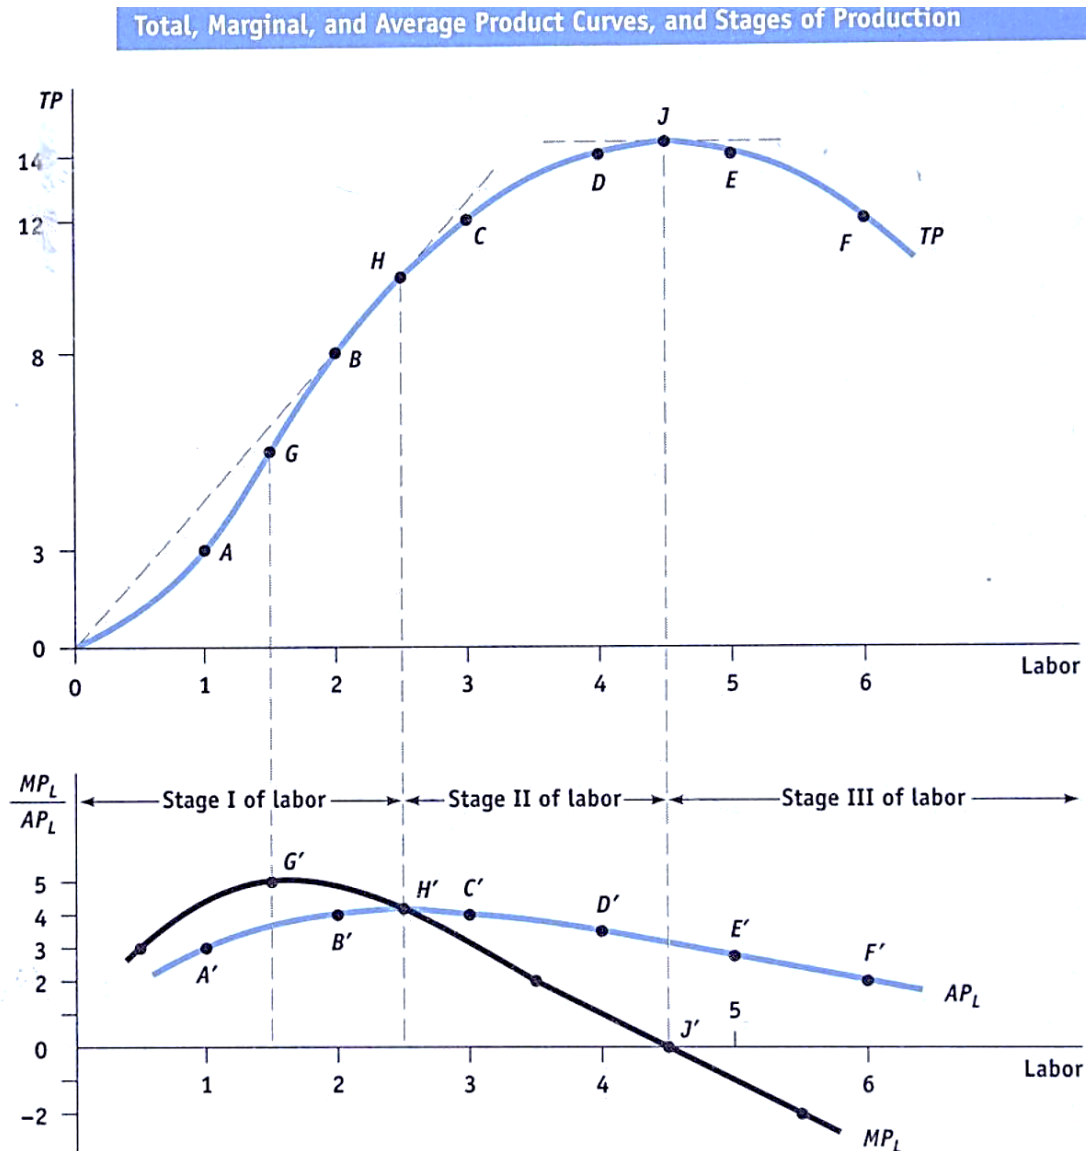

Figure 2
In the short run, capital is fixed at some level $\bar{K} = 3$ and any output can be produced using only factor combination that lies along the red line. If we plot the output on vertical against labor on horizontal axis then we get something called the **total product (TP) of labor** as shown in Figure 2.